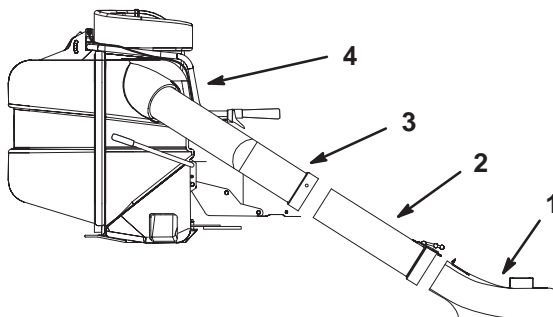

Figure 15
6. Slide the middle tube onto the boot and latch them together (Fig. 15).
7. Install the upper tube into the collector and onto the middle tube (Fig. 15).
12. Install the upper and middle tube to collector and boot. (Fig. 15).